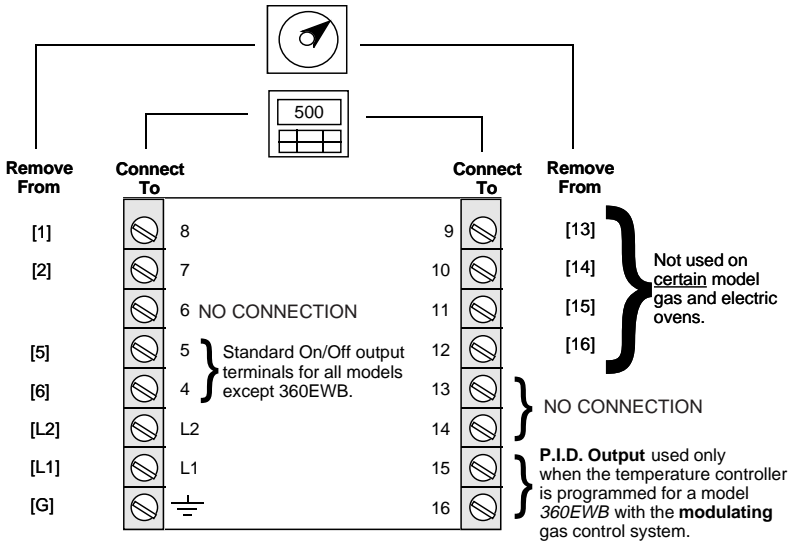

Figure 2 - Analog to Digital Terminal Cross Reference
All electrical connections on the Digital Temperature Controller are made on two terminal strips located on the rear of the controller case. The existing oven wires are connected to the new terminal positions indicated in the analog to digital terminal cross reference in Figure 2.
1. Use Figure 2 and Table 1 to identify the electrical connections. Also refer to step 4 if installing the latest Temperature Controller for the Modulating Configuration used in a 360EWB oven.